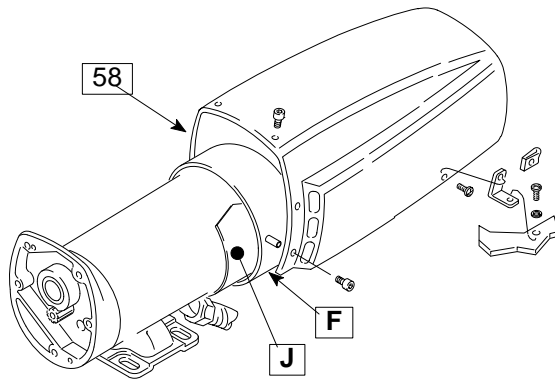

Fig 25-1
2. Remove the motor shield (58). Remove the inspection covers (J) and gaskets (K) on each side of the motor. See Fig 25-1.